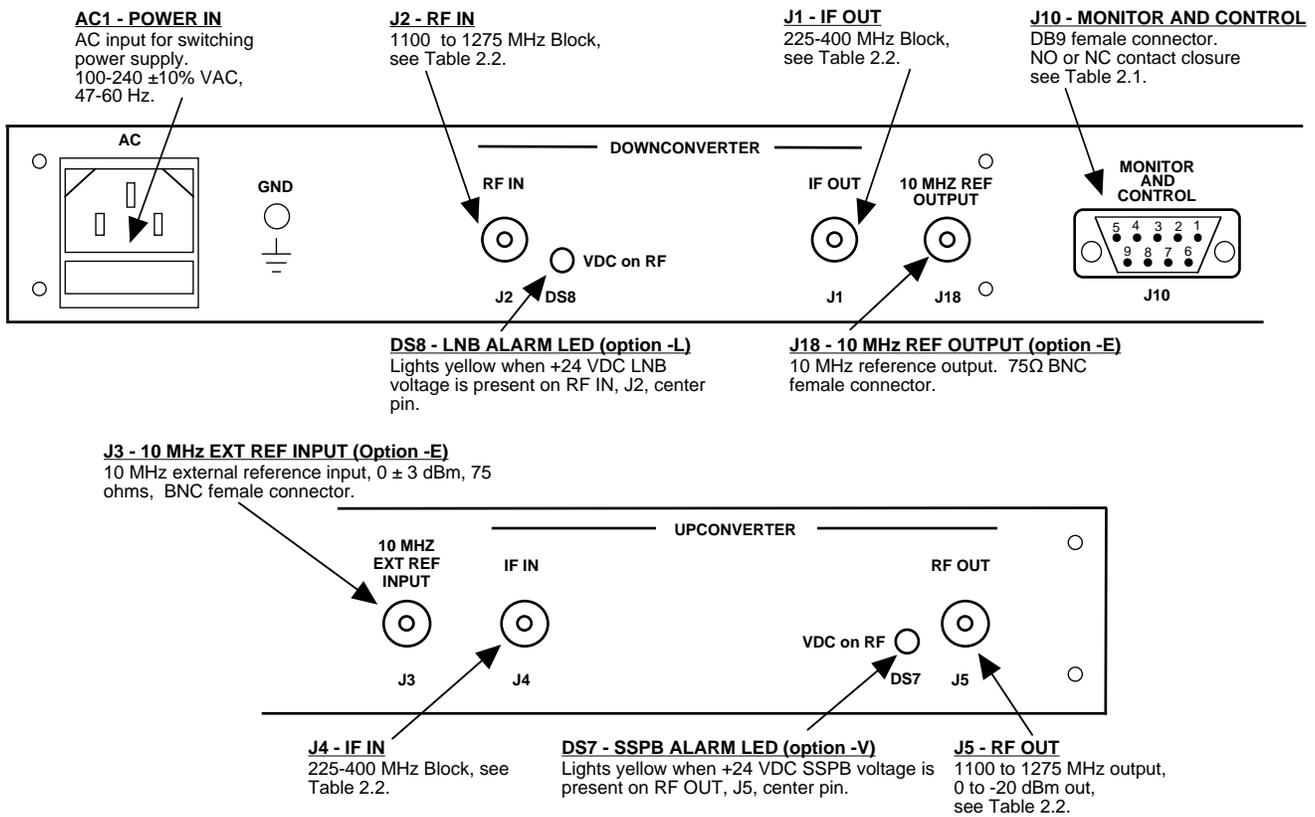

Figure 2.1 Model 2017-T03-400 Rear Panel I/O's
Figure 2.1 shows the input and output connectors on the rear panel.
- 1.) Connect a -40 dBm to -10 dBm signal to IF In, J4 (Figure 2.1).
- 1.) Connect a -40 dBm to -10 dBm signal to RF In, J2 (Figure 2.1).